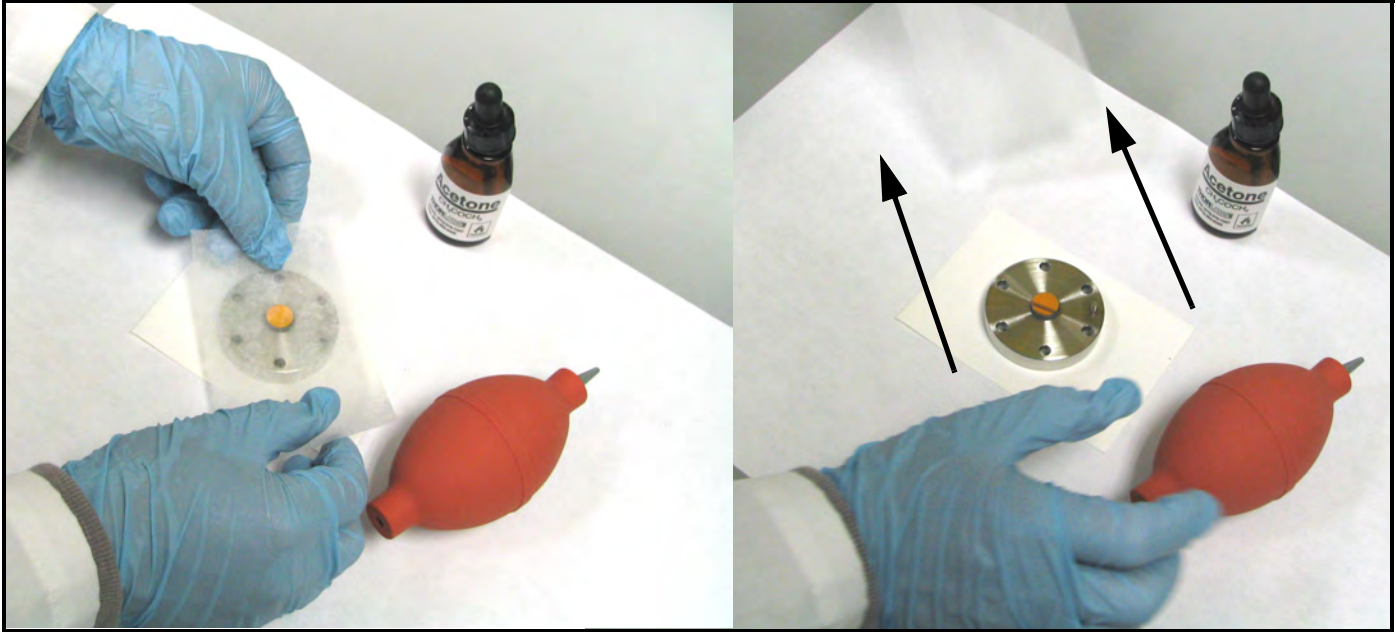

Figure 82: Dragging the Wet Lens Tissue Across the Mirror
8. Place the wet lens tissue on top of the mirror and drag it horizontally across the surface of the mirror (see *Figure 82* below).